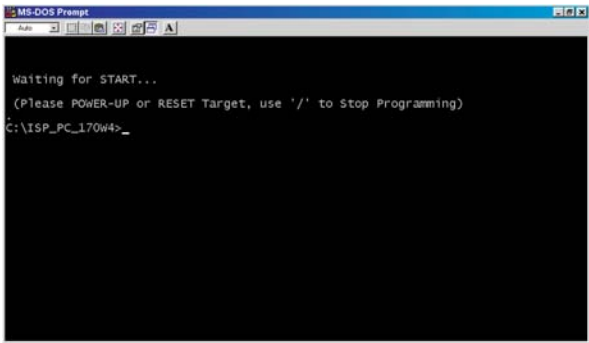

Fig. 13
Step 7 : Press "/" on keyboard, bring up Fig. 13.